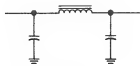

Figure 4-96
6. The circuit shown in Figure 4-96 can be used as a/an: